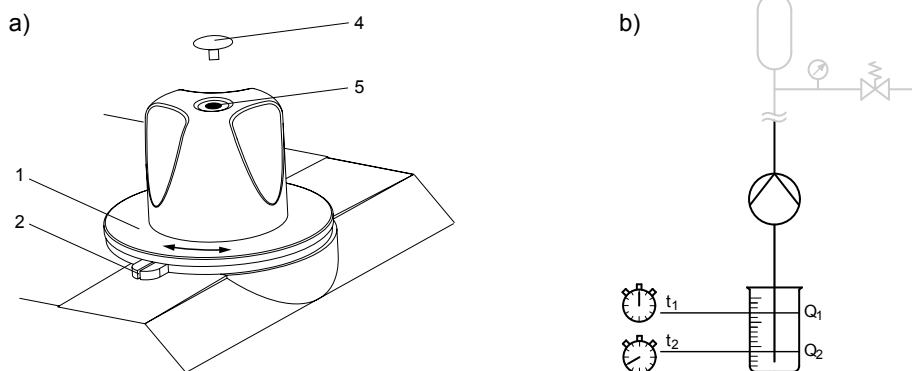

Fig. 21: a) Adjust indicating scale, b) Schematic assembly for calibration
3. ➤ Remove the cover (4) from the stroke adjustment knob and slacken off the screw (3) beneath slightly.
4. ➤ Guide the suction line into a measuring beaker - see Fig. 21.
- 12.** ➤ Turn the indicating scale (1) only until the 100 % marking is precisely above the indicating slot (2).
- 13.** ➤ Carefully tighten the screw (3) in the stroke adjustment knob and replace the cover (4).